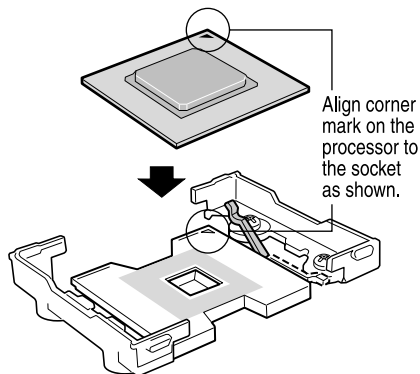

FIGURE 5-12 Inserting the Processor
4. **Insert the processor into the socket as shown in Figure 5-12.**